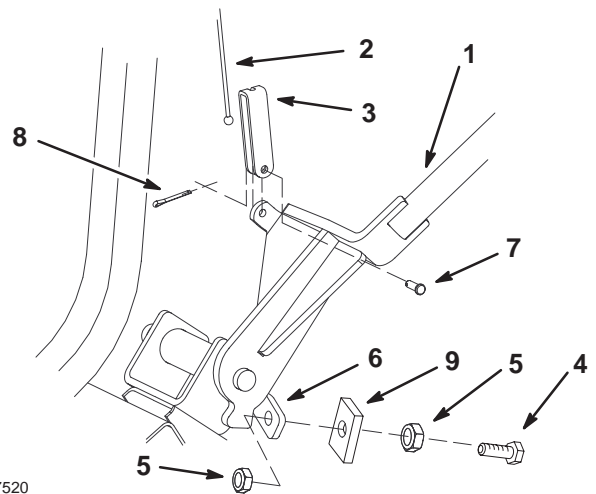

Figure 9
4. Install the cable ties (Fig. 9).
- Note:** Install the long cable clevis onto the bagger dump handle if it is for a liquid cooled machine (Fig. 9).
3. Secure the bagger cable clevis to the bagger arm with the clevis pin and cotter pin (Fig. 9).
4. Install the cable into the cable clevis installed on the bagger handle (Fig. 9).